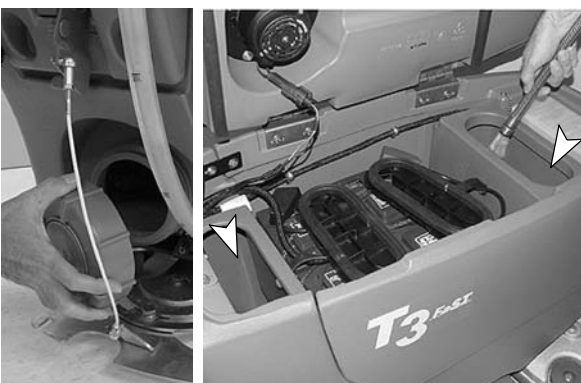

FIG. 30
2. To rinse out the solution tank, remove the clean-out cap at the rear of the machine and spray water (60°C maximum) directly into the two fill-ports located under the recovery tank (Figure 30).